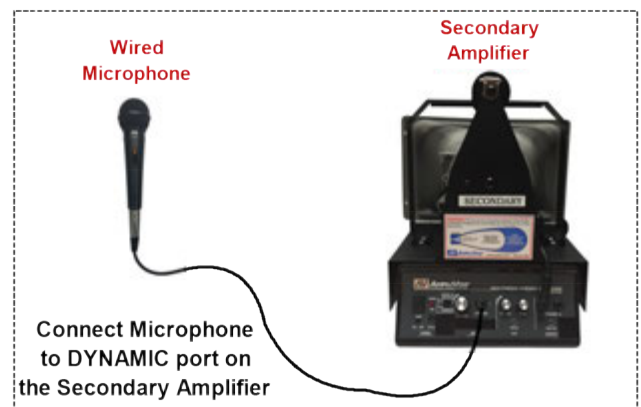

Figure 5
3. Secondary Amplifier with wired microphone *(See Figure 5)*